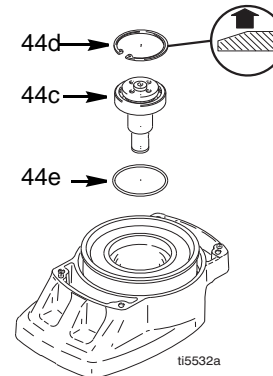

FIG. 6
7. FIG. 6. Afmonter holderingen (44d).
6. FIG. 6. Monter O-ringen (44e).